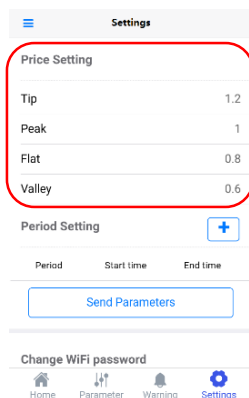

Figure 4-3
STEP 5: Price setting(Figure 4-3).